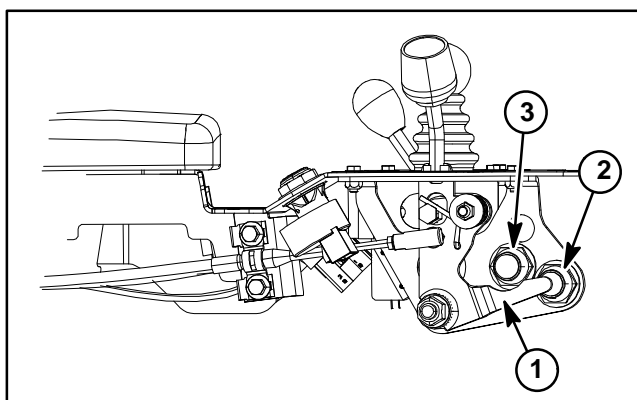

Figure 42
The neutral and mow switches are normally open proximity switches that mount to the console assembly (Fig. 42). The sensing plate for these switches is a tab on the functional control lever. The Toro Electronic Controller (TEC) monitors the operation of the neutral and mow switches.
3. Remove console cover from console assembly to gain access to neutral and mow switches (see Control Console Disassembly in the Service and Repairs section of Chapter 7 – Chassis). Locate switch that is to be tested (Fig. 42).